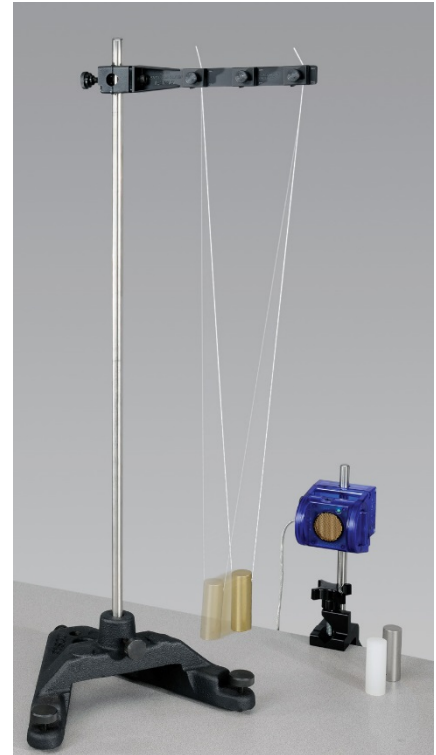

Figure 1: Measuring Pendulum Motion
The purpose of this experiment is to measure the period of a simple pendulum and to use scientific methods to determine the relationships between the period of a pendulum and its length, the mass of the pendulum, and the amplitude of the pendulum's motion. A Motion Sensor (see Fig. 1) is used to record the motion of the pendulum as it swings back and forth, and various software tools are used to determine the period.
3. Using the Table Clamp and the 45 cm Rod, position the Motion Sensor (see Fig. 1) in front of the pendulum so the brass colored disk is vertical and facing the bob, aimed along the direction that the pendulum will swing. Make sure that the range switch on the Motion Sensor is positioned on top. Adjust the Motion Sensor up or down so that it is at the same height as the pendulum bob.